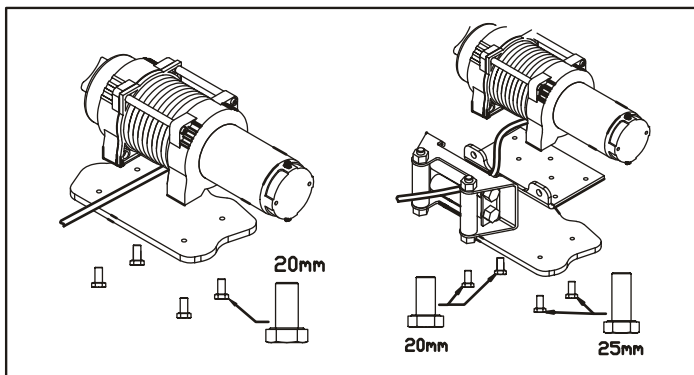

Figure 1: Orientation of winch to mounting plate and bolt lengths
## Step 1 - Mount the Winch (Figure 1)
**Note:** When using separate winch mount and fairlead plates use hex head cap screws on the motor side of the base as shown in Figure 1.